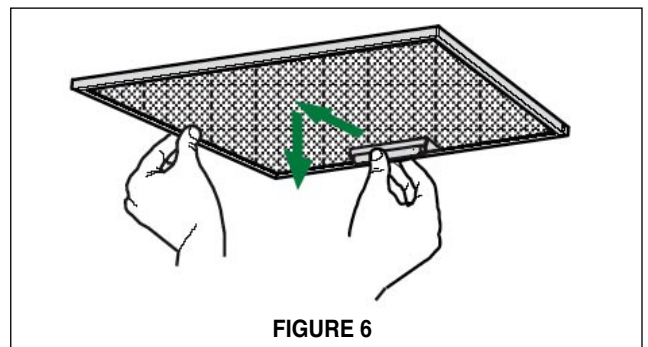

FIGURE 6
2. Using two hands, remove the grease filters one at a time by pushing the filter forward and pulling the handle down. (FIGURE 6)
1. Install the grease filters (**as indicated in FIGURE 6**)